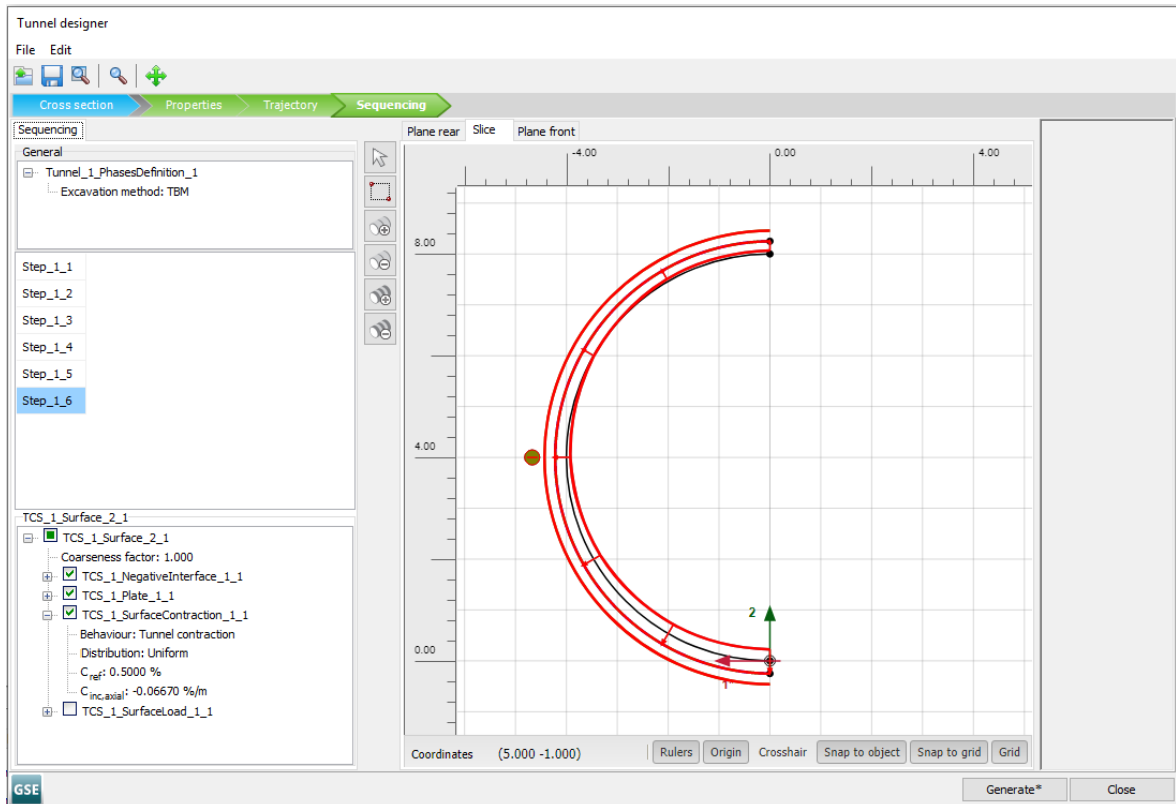

Figure 76: Slice tab Tunnel designer <Step_1_6> Definition of surface contraction
- In the **Selection explorer** select the **Surface contraction > Distribution > Uniform** option with $C_{ref} = 0.5\%$ (Figure 76 (on page 102)).